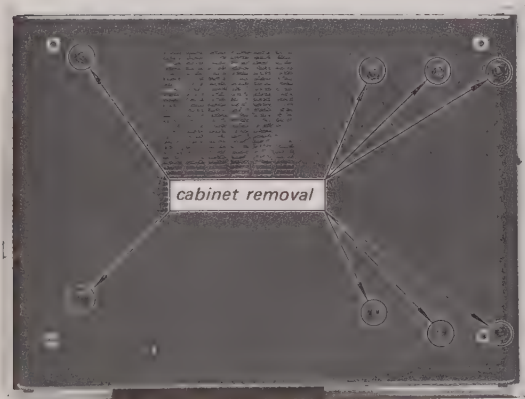

Fig. 4-2. Bottom view
1. Lift the side of the cabinet and remove the eight screws at the bottom of the cabinet. See Fig. 4-2.